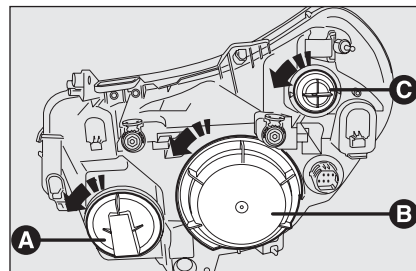

fig. 20
To replace the main beam bulb, remove cap **A-fig. 20**.
To replace the dipped beams/sidelights bulb, remove cap **B-fig. 20**.
To replace the direction indicators bulb, remove the bulb holder **C-fig. 20**.
- ☐ remove the protection cover **B-fig. 20** turning it counterclockwise;
- ☐ refit the protection cover **B-fig. 20** turning it clockwise and check for proper locking.
- ☐ remove the protection cover **A-fig. 20** turning it counterclockwise;
- ☐ refit the protection cover **A-fig. 20** turning it clockwise and check for proper locking.